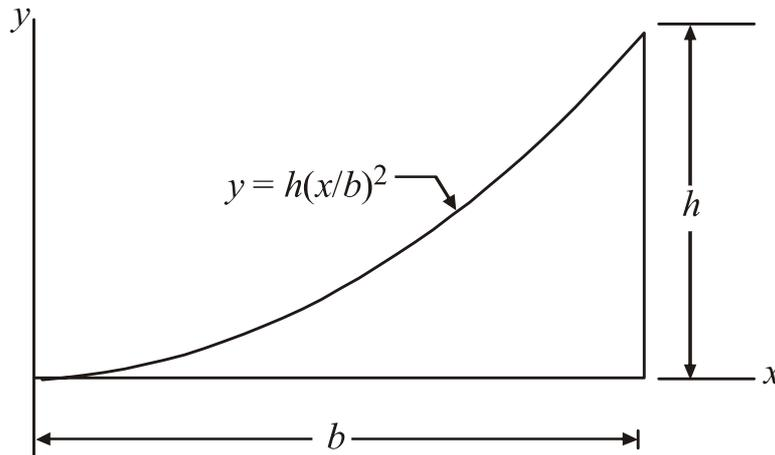

FIG.2
12. Calculate the moment of inertia of the shaded area about the y -axis (Fig. 2) by using double integration method.